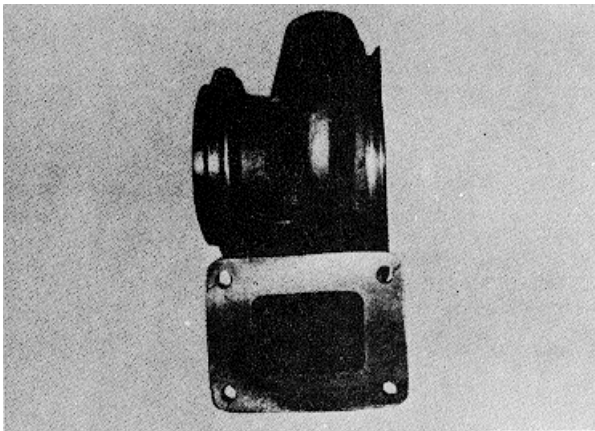

Fig. 10-14, T-399. Cracks in turbine casing mounting flange
1. Inspect turbine casing mounting flange for cracks, Fig. 10-14, distortion and burning.